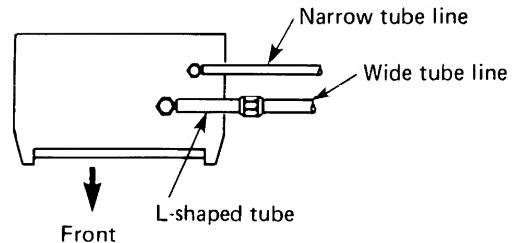

Fig. 12
- b) Tubing to the right (Fig. 12)